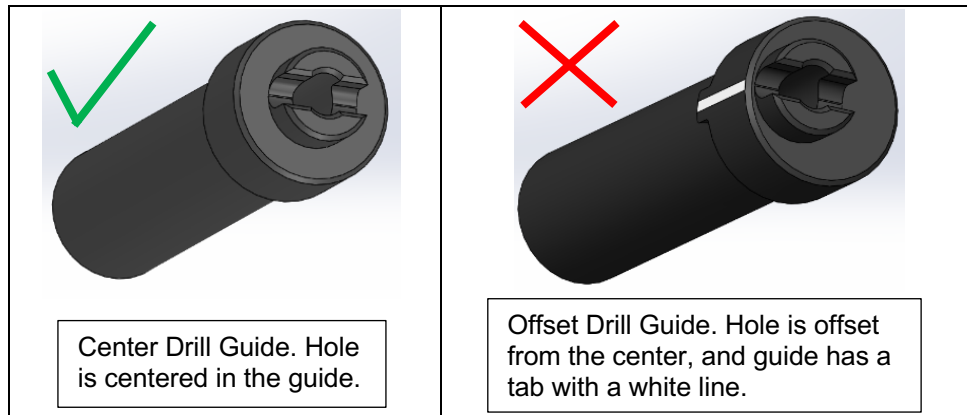
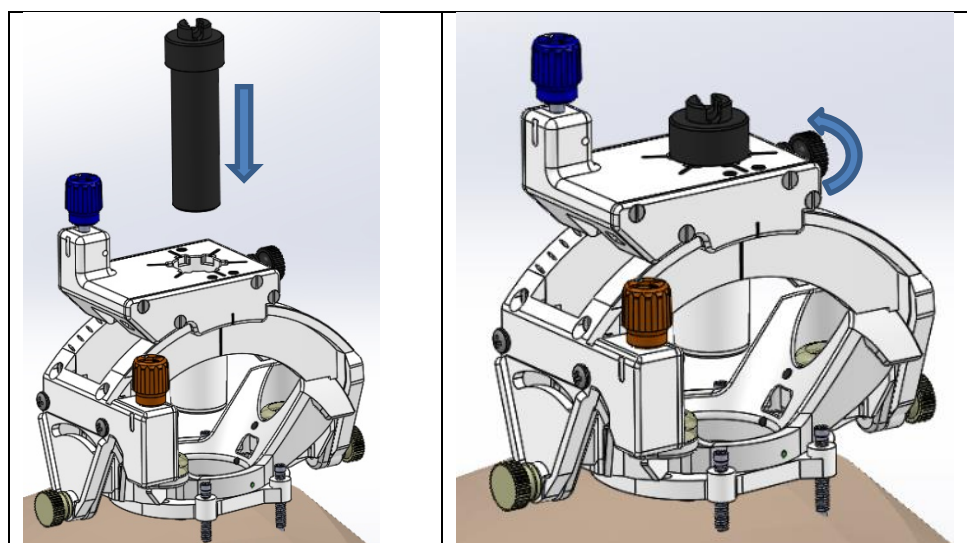

Figure 14: Center Drill Guide (Left) and Offset Drill Guide (Right). Only use the Center Drill Guide if creating an access hole in the OR.
Figure 15: Inserting the Center Drill Guide into the SMARTFrame Array Tower
10. If creating the access hole in the Operating Room, insert the Center Drill Guide (see Figure 15), which is colored black and has a hole through its center with a slotted feature on the top surface. **See Figure 14 (Left).** **DO NOT use the Offset Drill Guide at this time.** The Offset Drill Guide has a tab with a white line and a hole that is not centered within the Guide. **See Figure 14 (Right).**